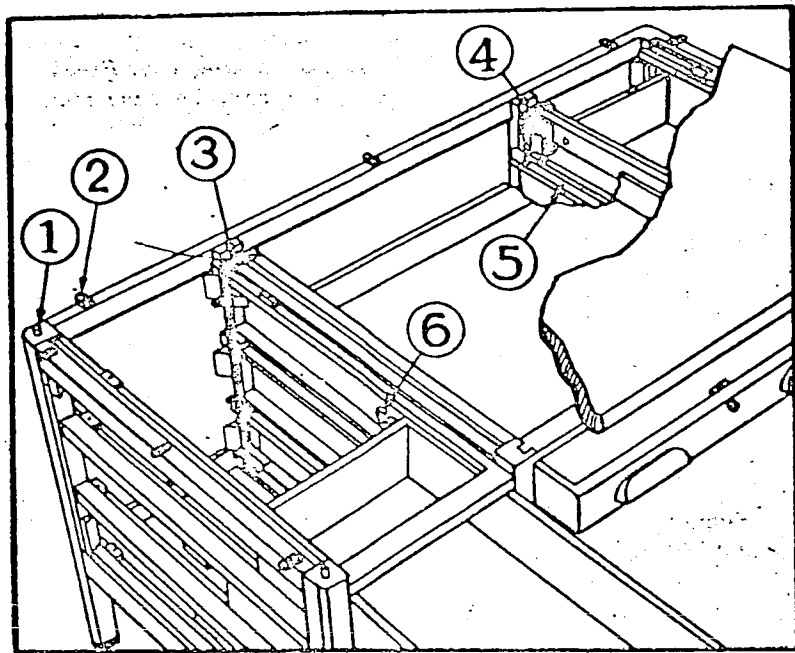

Fig. 21 Cutaway View of Rear Section of Flat Top Desk
The ordinary wooden desk is opened quickly when the Locksmith knows the construction of the two locking devices ordinarily employed. The Locksmith will encounter the remote control lock most often (4 in Fig. 21) In this construction, the center, top drawer contains the lock. When all the drawers are closed, the center drawer is locked, the whole desk is secured. The side drawers are locked by leverage action when the center drawer is closed tightly. The center drawer when pushed against the locking lever (4), forces the locking rod (3) down into the hook (6)
Some flat desk tops are held in place by loose wooden dowel pegs (1 in Fig. 21) In order to release the lock of the center drawer, try to lift up the top first. If this doesn't yield, look for small angle brackets (2 in the illustration) that secure the top to the body. Remove the screws and lift the top free of the lock. Another method for releasing the center drawer is to unfasten the cross piece underneath the face of the drawer. An alternative to this is to remove the guide channels (5 in the illustration) of the drawer permitting the drawer to be lowered out of place.